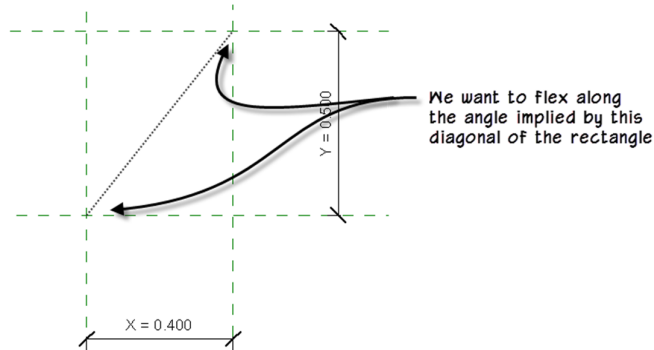

Figure 10—The angle we want is defined by the width and height of a rectangular reference plane rig
1. Create a new profile family and add reference planes and dimensions to make a flexible rectangle (see Figure 10).